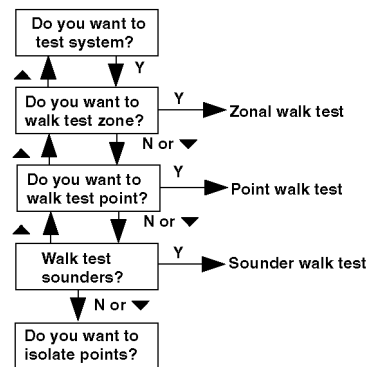

Fig. 7 'MINERVA' Controller - Test System Menu
- 1) Select the 'Test System' option from the main menu. The menu shown in Fig. 7 will be displayed. The menu options are selected as described in section 3.4.1, or